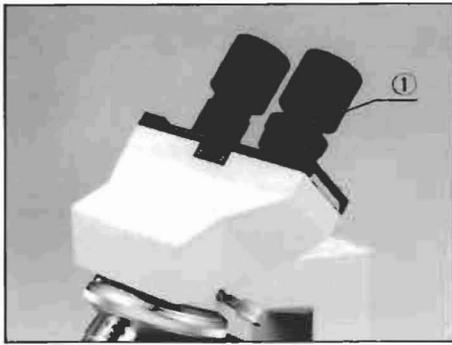

Fig. 13
- 2) Next, looking at the image through the left eyepiece with your left eye, rotate the diopter adjustment ring ① to focus on the specimen without using the focus adjustment knobs. (Fig. 13)